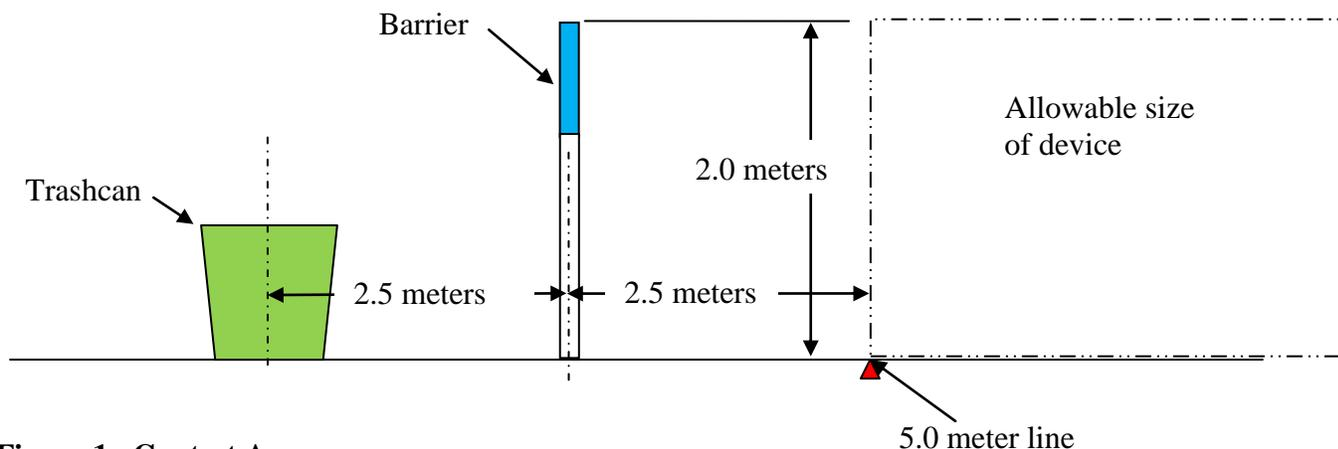

Figure 1. Contest Area
- 9) The contest site is located in front of the steps leading to Building 180. The site may contain one or two areas for setting up and operating the device. The ground is concrete with a rough finish and has a slight slope. The barrier (See Rule 7) is located at a distance of 2.50 meters from the 5.0 meter line. The center of the trash can (See Rule 8) is located 5.0 meters away from the 5.0 meter line. See Figure 1 for a description of the contest area.